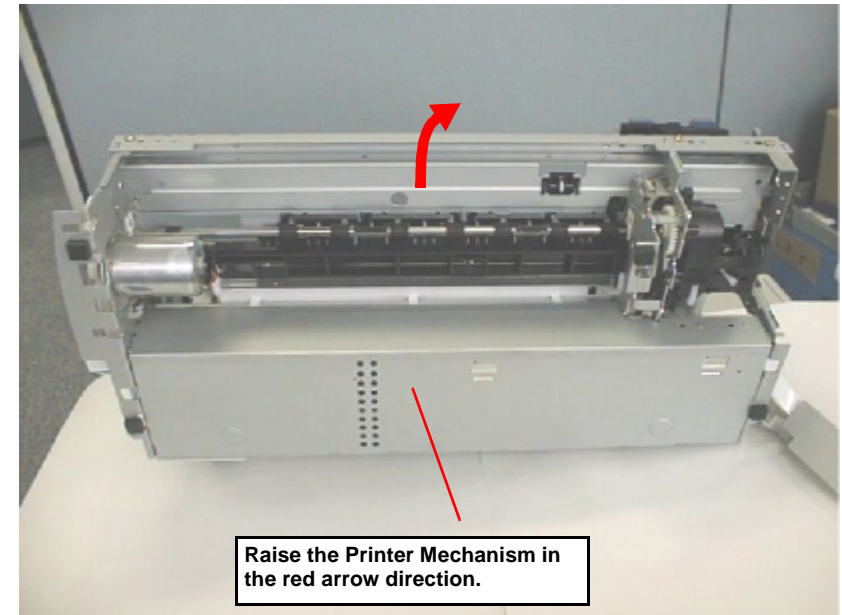

Figure 4-13. Raising the Printer Mechanism
- 5) Raise the Printer Mechanism toward ASF side so that you can see the bottom of the Printer Mechanism. (Refer to Figure 4-13.)